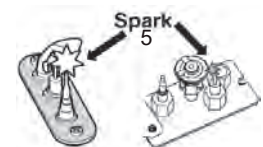

Fig 3
2. TO CLEAR ANY GAS, turn main valve off by pressing the  button on remote handset (1). Wait five (5) minutes to clear out any gas, then smell for gas, including near the floor. If you smell gas, STOP! follow "B" in the safety information above on this label. If you don't smell gas, go to the next step.
3. AUTOMATIC IGNITION: MAN-knob (2) in ON position. Ensure Flame Adjustment knob (3) is set to lowest setting (Fig. 1). Locate the pilot (Fig. 3.) inside the firebox.
With the window off, locate the pilot (Fig. 3) inside the firebox. Set Flame Adjustment knob (3) to the lowest setting. Push down the metallic core (4) with a pen or similar instrument; this will establish the pilot gas flow. Light gas at the pilot (5) with a match. Continue holding down metal core (4) for about 10 seconds; after release, pilot should remain lit.